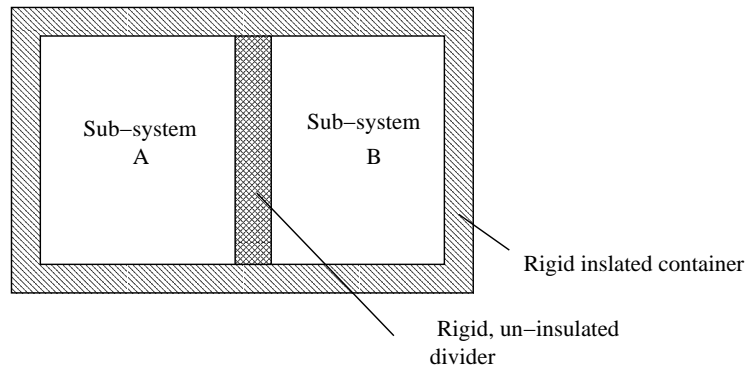

Figure 2: Schematic for Problem 3
3. An insulated rigid container is divided into two parts by an un-insulated rigid divider, as shown in Figure 2. Sub-system A initially contains 0.1 kg of water at 200°C and a pressure of 100 kPa. Sub-system B initially contains 0.2 kg of water at temperature of 80°C and a quality of 0.8. The sub-systems are allowed to exchange heat until sub-system A reaches a final temperature of 150°C and a final pressure of 50 kPa and sub-system B has reached a final temperature of 90°C.